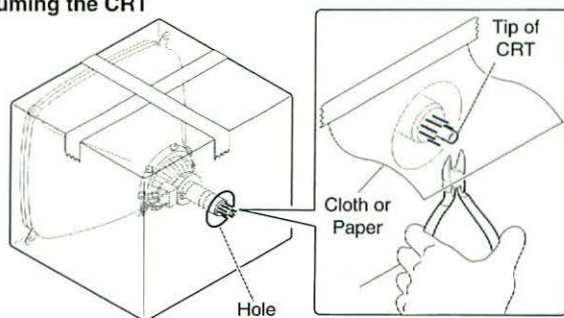

Figure 1 Discharging and Disposing of the CRT
▲ Warning **Discharge the anode to the metal ground lug (see Figure 1-B). Failure to do so may damage the logic board.**
2. Attach the alligator clip on the CRT discharge tool to the metal part of the ground lug (see Figure 1-B).
3. Place the CRT inside the box with the tip of the neck protruding through the hole, and tape the box flaps down with the duct tape (Figure 1-C).
5. Tape the piece of cloth or paper onto the box so that it forms a veil over the opening, but allows access to the tip of the CRT (Figure 1-C). The purpose of the veil is to catch bits of glass that may fly during the next step.